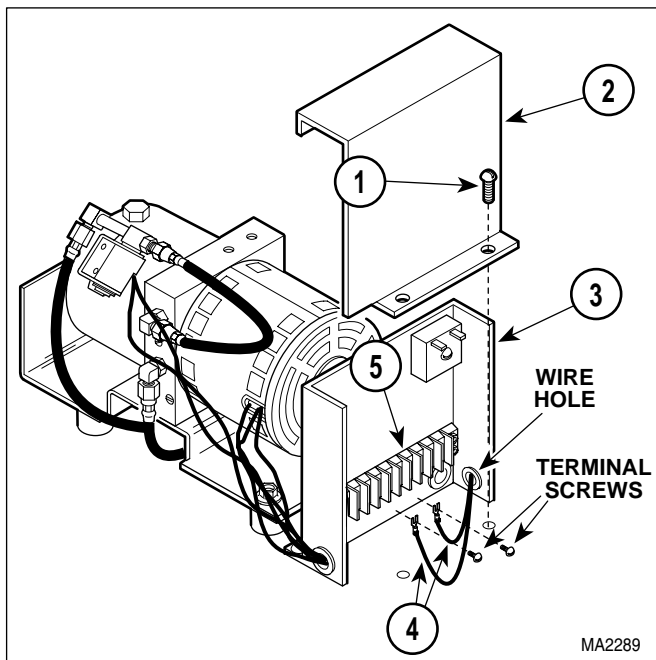
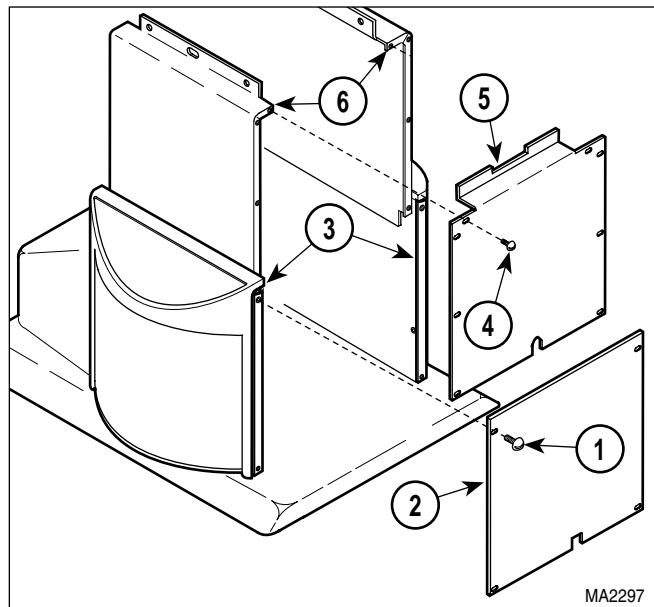
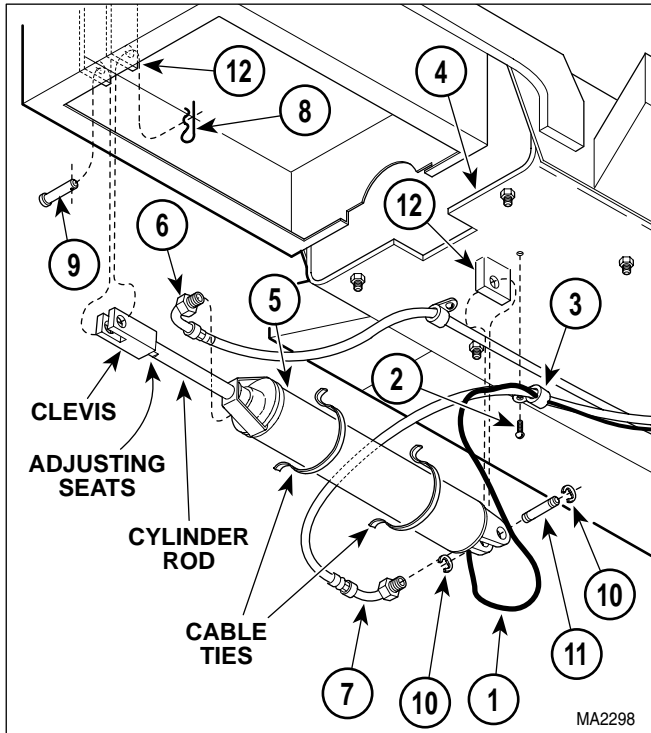

Figure 4-21. Foot Cylinder Wire Disconnection / Connection
Figure 4-22. Shrouds Removal / Installation
Figure 4-23. Foot Cylinder Removal / Installation
- (1) If possible, raise FOOT UP function all the way up.
- (2) Unplug table power cord from outlet.
- (3) Remove motor cover assembly (Refer to para 4.2).
- (4) Remove two screws (1, Figure 4-21) and control cover (2) from control panel (3).
- (5) Loosen two terminal screws; then tag and disconnect two foot cylinder wires (4) from terminal block (5).
- (6) Pull foot cylinder wires (4) out thru wire hole.
- (7) Remove four screws (1, Figure 4-22) and front outer shroud (2) from left and right hand outer shrouds (3).
- (8) Remove eight screws (4) and front inner shroud (5) from left and right hand inner shrouds (6).
- (9) Cut cable ties securing foot cylinder wire harness (1, Figure 4-23).
- (10) Remove screw (2) and wire clip (3) securing foot cylinder wire harness (1) to seat weldment (4).
- (11) Cut cable ties securing hose assemblies to foot cylinder (5).
- (12) Disconnect hose assembly (6) from foot cylinder (5).
- (13) Disconnect hose assembly (7) from foot cylinder (5).
- (14) Support foot section of table top and then remove hitch pin clip (8), clevis pin (9), two E-rings (10), clevis pin (11), and foot cylinder (5) from brackets (12).
- (1) Install foot cylinder (5, Figure 4-23) on brackets (12) and secure with clevis pin (11), two E-rings (10), clevis pin (9), and hitch pin clip (8).
- (2) Connect hose assembly (7) to foot cylinder (5).
- (3) Connect hose assembly (6) to foot cylinder (5).
- (4) Secure hose assemblies (6 and 7) to foot cylinder (5) with cable ties.
- (5) Secure foot cylinder wire harness (1) to seat weldment (4) with wire clip (3) and screw (2).
- (6) Feed foot cylinder wires (4, Figure 4-21) thru wire hole in control panel (3).
- (7) Connect two foot cylinder wires (4) to terminal block (5) and secure with two terminal screws.
- (8) Install control cover (2) on control panel (3) and secure with two screws (1).
- (9) Plug table power cord into outlet.
- (10) Raise FOOT UP function all the way up.
- (11) If foot section *is not* level with seat section when FOOT UP function is completely raised, perform steps 12 thru 14. See Figure 4-23. If foot section *is* level when the FOOT UP function is completely raised, go to step 15.
- (12) Lower FOOT DOWN function down until cylinder rod is extended halfway.
- (13) Place a wrench on adjusting seats of cylinder rod and use it to rotate cylinder rod to adjust clevis up or down as necessary.
- (14) Repeat steps 10 thru 14 until foot section is level with seat section when FOOT UP function is completely raised.
- (15) Install any cable ties removed during removal.
- (16) Install front inner shroud (5, Figure 4-22) on left and right hand inner shrouds (6) and secure with eight screws (4).